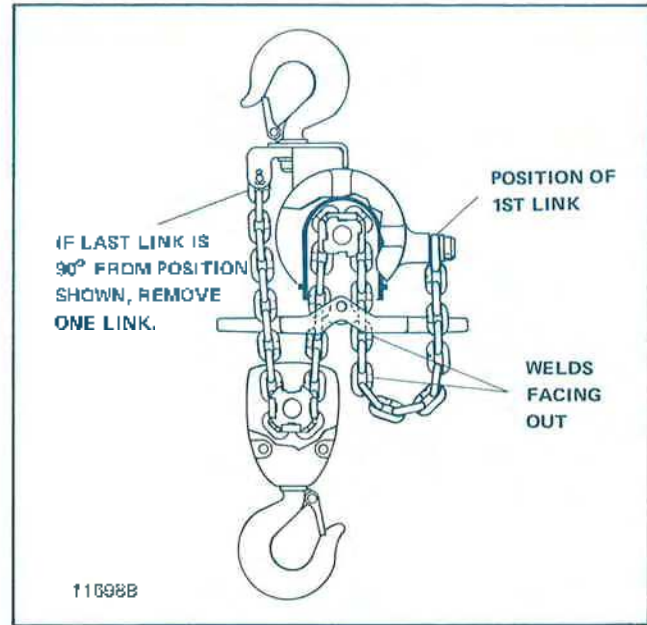
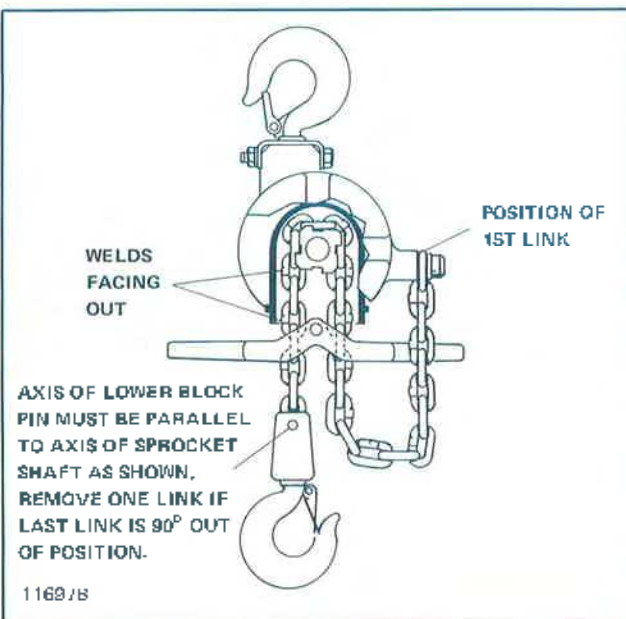

Figure 7-17. Installing Double Reeved Load Chain (3/4 and 1 Ton Models).
FIGURE 7-16. Installing Single Reeved Load Chain (1/4, 3/8 and 1/2 Ton Models).
(1) To install roller type load chain, first temporarily install connecting link on tail end of load chain. Then, with the air off, brake cover removed, and brake shoes locked in "open" position (with wedge between control lever and hoist body), turn brake wheel in "hoist" direction and feed chain in through lever control into chain sprocket. Once chain is over sprocket, brake cover can be replaced, hoist connected to air, and the chain run through hoist under power until sufficient chain has been run through to allow tail end to be attached to boss on side of frame with chain anchor. On single reeved hoist, attach lower block to load end of chain. On double reeved hoist, run lower block assembly onto chain and attach load end of chain to lug suspension bracket.
(2) When installing coil chain on the hoist, make sure the weld on the second link faces "out" or away from the sprocket. (See Figures 7-16 and 7-17.) Now, with the air off, brake cover removed, and brake shoes locked in "open" position (with wedge between control lever and hoist body), turn brake wheel in "hoist" direction and feed chain in through lever control into chain sprocket. Continue to feed the chain through until approximately 15" to 16" hangs through the tail chain side of the hoist. Take the first link and swing it up (do not twist) (see Figure 7-16) to the frame boss and fasten in place. The rest of the chain can be pulled through, and then the lower block fastened in place (on single reeved hoist). On double reeved hoist, allow approximately 17' to 18' of chain to hang on the lifting direction side (Figure 7-17). Run the lower block assembly onto chain and swing (do not twist) the remainder of the chain up and attach to lug on suspension bracket. Remove wedge from between lever and frame and replace covers.
NOTE: Chain must not be twisted and link welds must be positioned as shown in Figure 7-17.